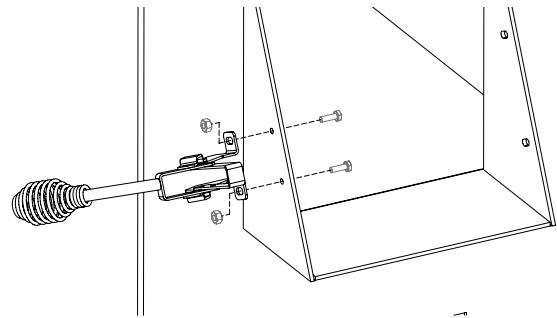

Figure 14
3. Attach feed door locking handle as in Figure 14 with screws and nuts provided. Note: Slotted holes are for adjustment of handle. Adjust handle until some pressure is required to lock feed door during firing sequence.